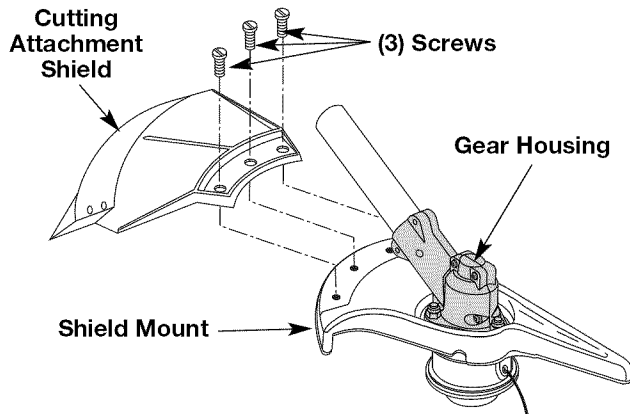

Fig. 4
Remove the cutting attachment shield from the shield mount by removing the three (3) screws with a flat blade screwdriver (Fig. 4). Store parts for future use.
Install the cutting attachment shield on the shield mount by inserting the three (3) screws into the shield mount. Tighten securely with a flat blade screwdriver (Fig. 4).